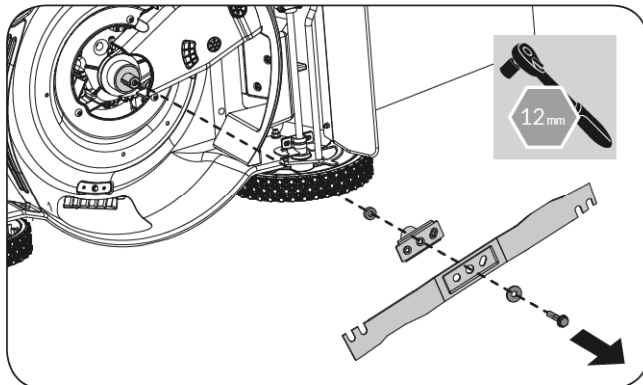

Figure 15
2. Remove the blade. (See **Figure 15**)